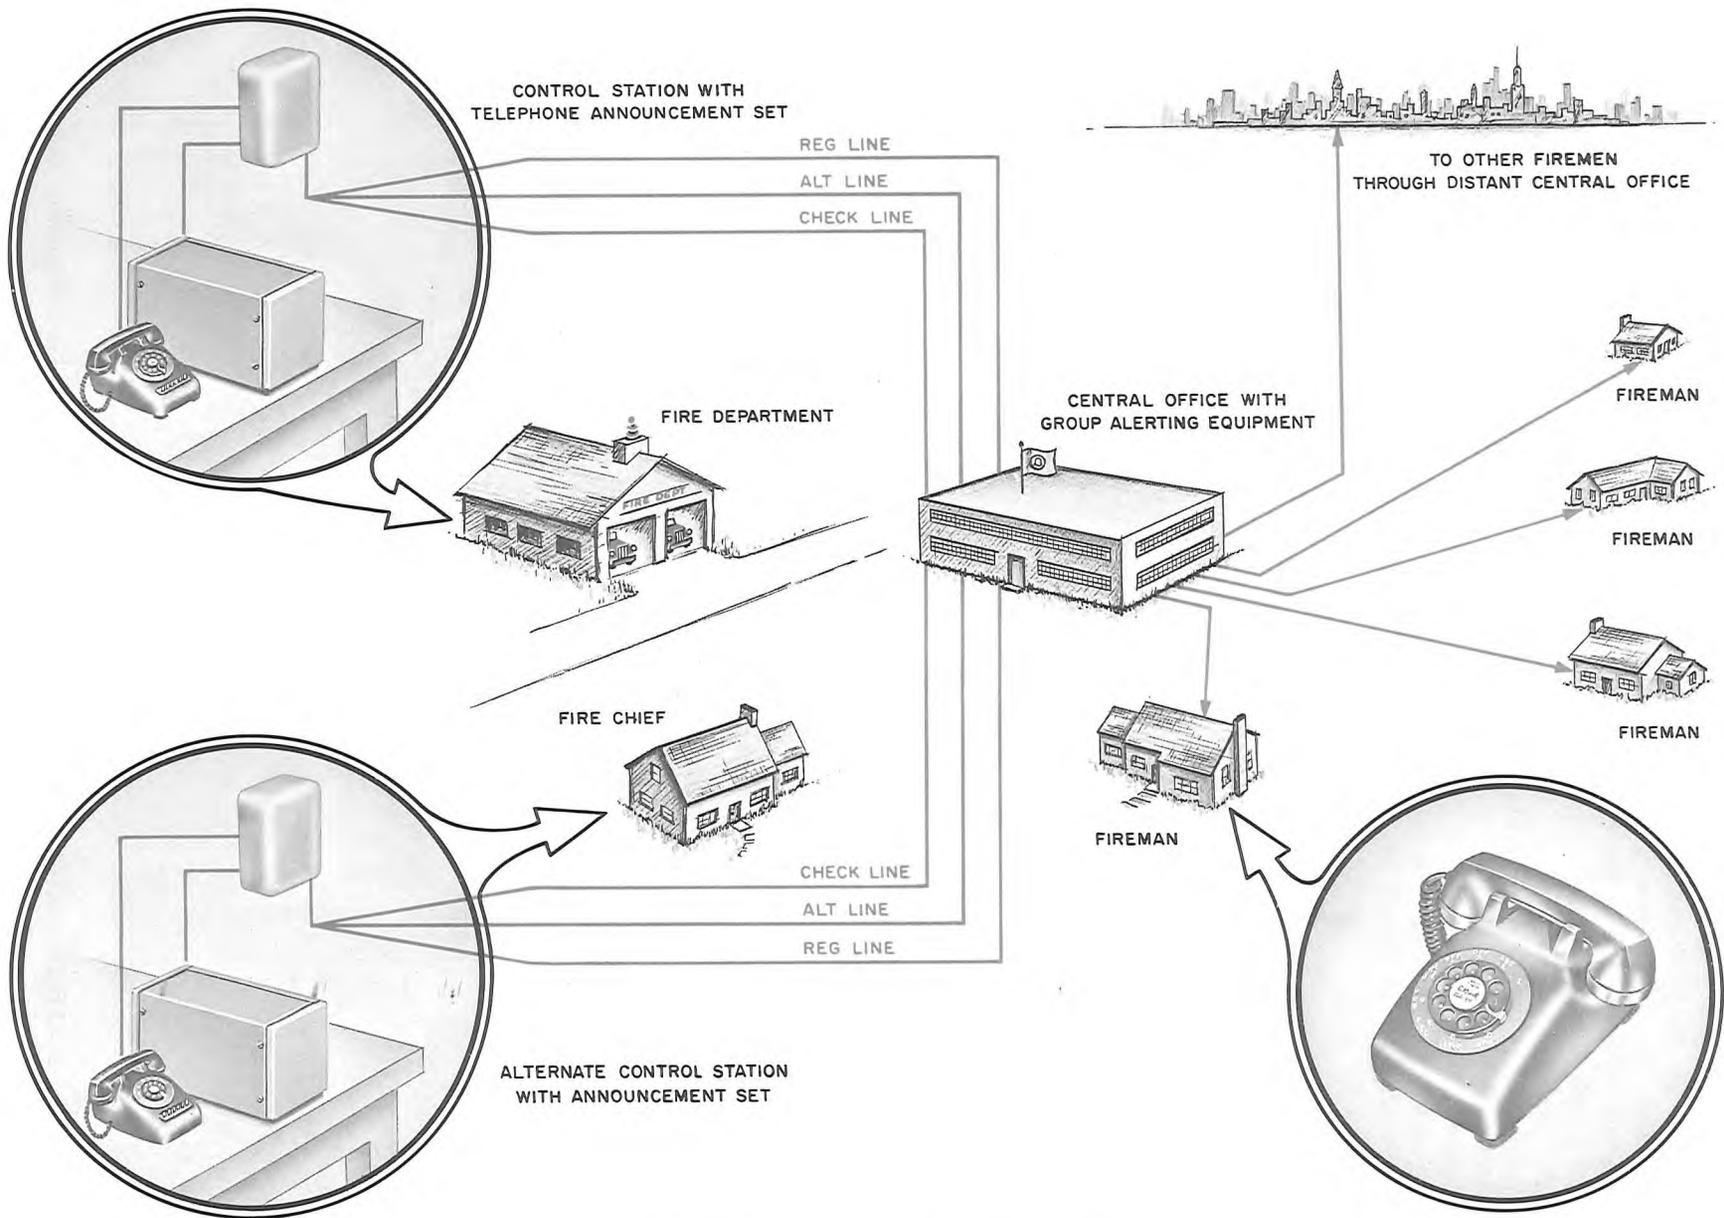

Fig. 1 – Typical Group Alerting System
(3) Two control lines (regular and alternate), a monitoring line, a modified 565GBR telephone set, and one of the combinations under (2) for a typical system. (See Fig. 1.)